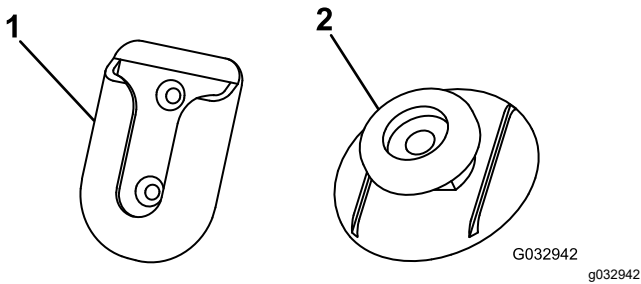

Figure 5
4. Clean the back of the swivel mount (Figure 5) with the alcohol wipe and then dry it.
8. Remove the backing from 1 side of the adhesive and apply it to the back of the mounting tab (Figure 5).